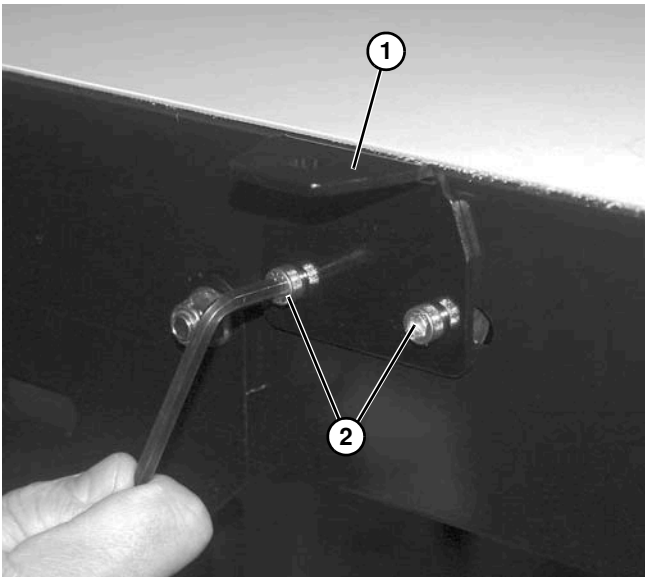

Figure 54
5. With mounting bracket (**Figure 54, item 1**) level with conveyor, tighten screws (**Figure 54, item 2**).